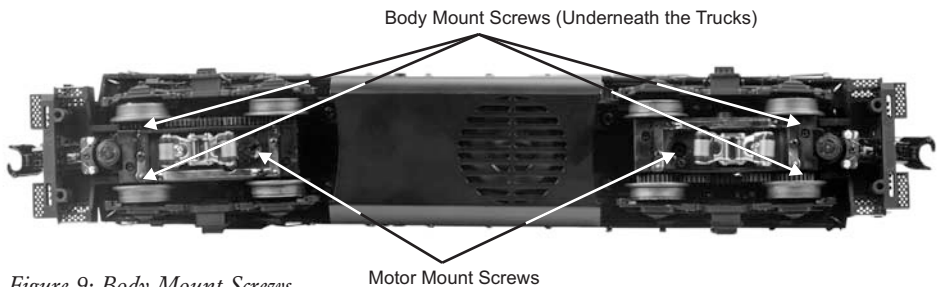

Figure 9: Body Mount Screws
1. To access the gear box, remove the cab from the chassis by unscrewing the body mount screws (located underneath the trucks) as seen in fig. 9 and lifting the cab from the chassis.
2. Once the cab is removed, remove the trucks by unscrewing the black Phillips motor mount screw located on the underside of the drive trucks (fig. 9).